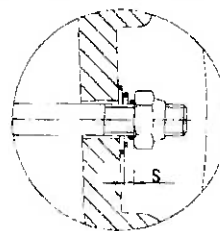

Figure 25: Adjust floating clearance
- flange cover or fan guard (21), circlip (20), and fan (19)
3. Remove rubber sealing collar (5), and dismantle manual brake release:
- setting nuts (18), conical coil springs (17), studs (16), release lever (15), dowel pin (14)
4. Undo the hex nut (10e) carefully pull back the coil body (12) (use caution with the brake cable!) and remove brake springs (11).
5. Remove damping plate (9), armature plate (8) and brake disc (7, 7b). Clean the brake parts
8. For manual brake release: set floating clearance "s" via setting nuts between conical coil springs (pressed flat) and setting nuts. (• Figure 25).